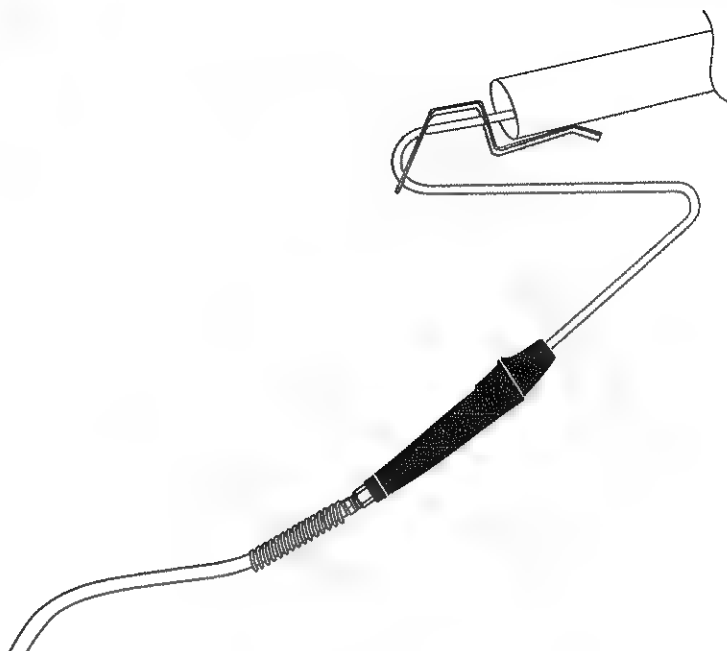

FIGURE 17:
4. Insert the sample probe into the tailpipe as shown in FIGURE 17. The clamp will hold the probe in place.